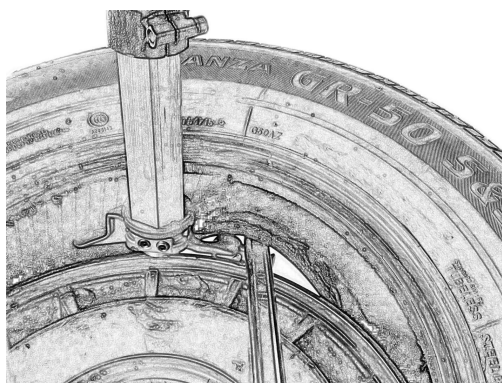

Fig 12
- For big tires, hook on the left arm could be used to lift tire bead from inside, pull switch upward to lift tire, on the opposite side, insert lever (straight end) to lift tire as Fig.12, make sure the lever is on the ball protuberance of the mount/demount head, then move away arm, depress corresponding pedal to rotate turntable till tire comes out of rim.